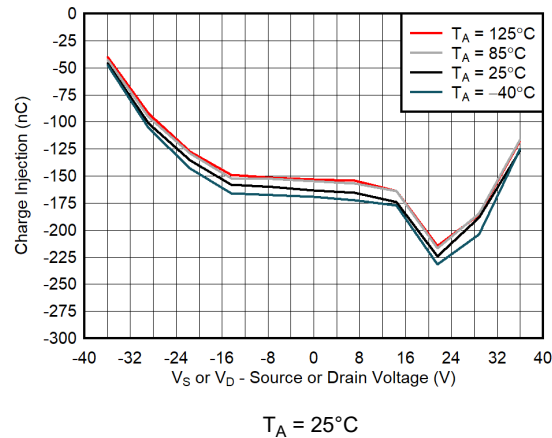

Figure 9-3. Charge Injection vs Drain Voltage
The low on and off leakage currents of MUX80x-Q1 and ultra-low charge injection performance make this device an excellent choice for implementing high precision automotive systems. The MUX80x-Q1 contains specialized architecture to reduce charge injection on the drain side (D). Figure 9-3 shows the plot for the charge injection versus source voltage for the MUX80x-Q1.